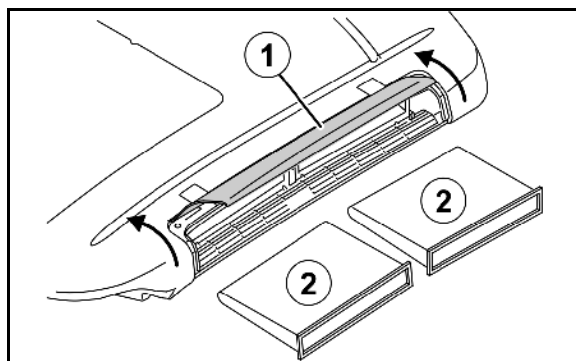

Fig. 164
1. Open the cover (Fig. 164/1) on the cabin roof, left side.
2. Unlock the filter (Fig. 164/2), take out and replace.